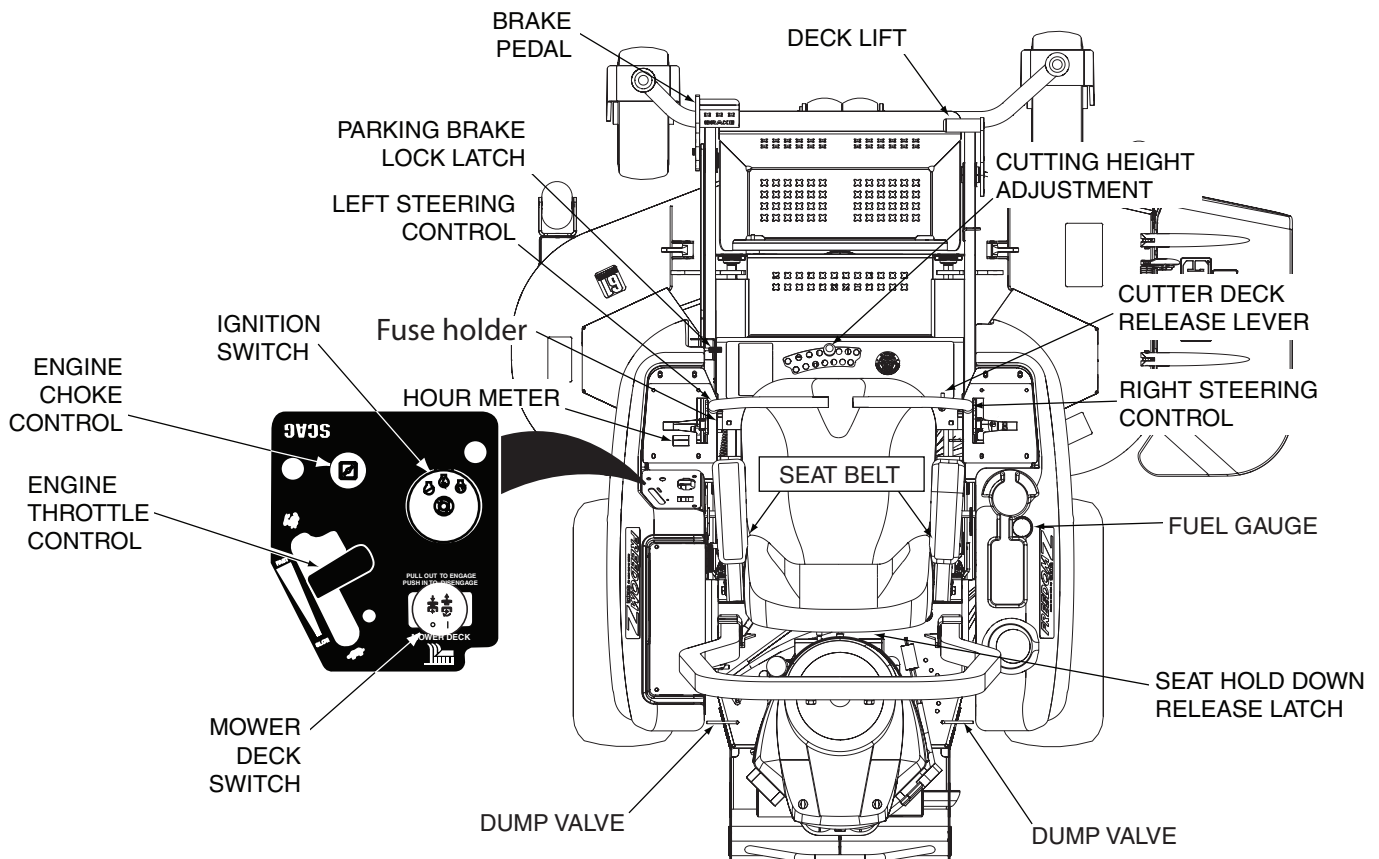
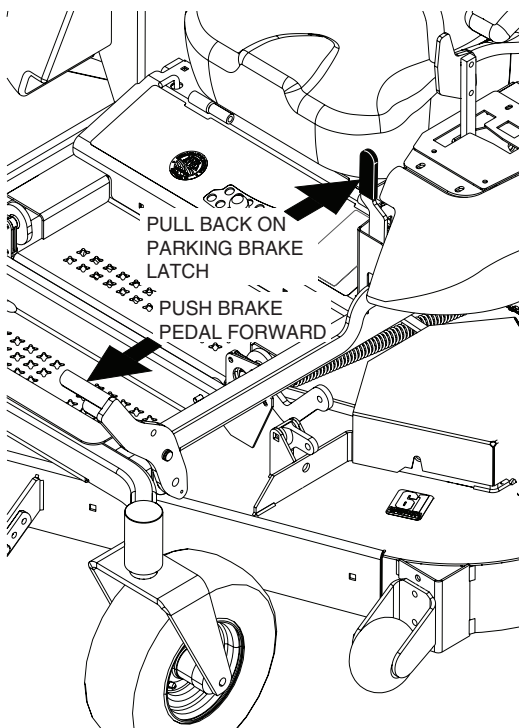
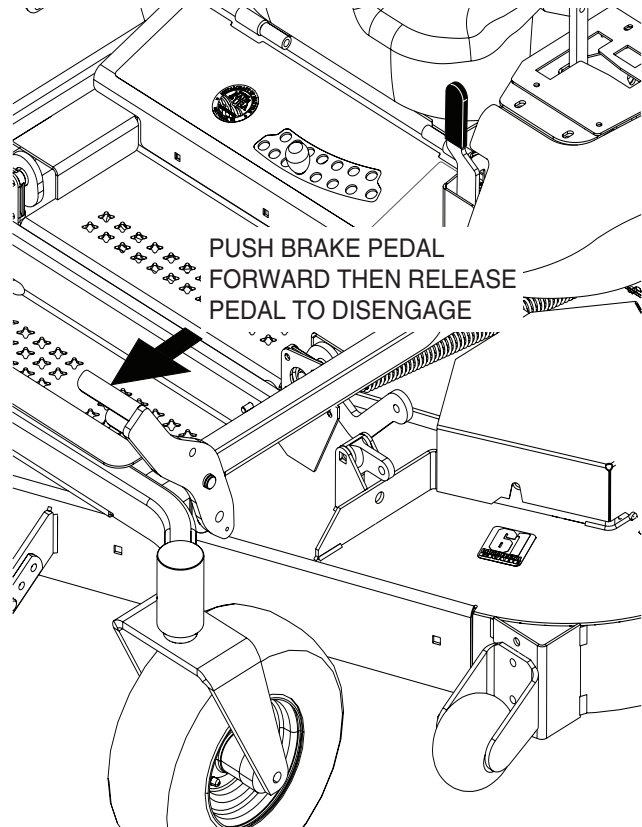

Figure 4-1. Controls and Instruments
Figure 4-2. Engaging the Parking Brake
Figure 4-3. Releasing the Parking Brake
1. **Ignition Switch (Figure 4-1).** The ignition switch is used to start the engine and has three positions; OFF, ON, and START.
2. **Mower Deck Switch (Figure 4-1).** Used to engage and disengage the mower drive system. Pulling up on the switch will engage the deck drive. Pushing down on the switch will disengage the deck drive.
3. **Engine Choke Control (Figure 4-1).** Used to start a cold engine.
4. **Engine Throttle Control (Figure 4-1).** Used to control the engine speed. Pushing the lever forward increases engine speed. Pulling the lever back decreases engine speed. Full back position is the IDLE position. Full forward is the cutting position.
5. **Fuel Gauge (Figure 4-1).** Indicates the amount of fuel in the fuel tank.
6. **Hourmeter (Figure 4-1).** Indicates the number of hours the engine has been operated. It operates whenever the engine is running. Has preset maintenance reminders for engine and hydraulic system oil changes. Will start flashing scheduled maintenance 2 hours before preset time and continue flashing until 2 hours after. Automatically resets.
7. **Fuse Holders (Figure 4-1).** Two 20-amp fuses protect the mower's electrical system. To replace fuses, pull fuse out of the socket and install a new fuse.
8. **Left Steering Control (Figure 4-1).** Used to control the mower's left wheel when traveling forward or reverse.
9. **Right Steering Control (Figure 4-1).** Used to control the mower's right wheel when traveling forward or reverse.
10. **Brake Pedal (Figure 4-1).** Depressing the brake pedal applies the brake.
11. **Parking Brake Lock Latch (Figure 4-1).** Used to lock the parking brake in the engaged position. Fully depress the brake pedal and pull the parking brake lock latch back to lock the parking brake in the engaged position. See Figure 4-2. Fully depress the brake pedal forward to disengage the parking brake lock latch, then release the brake pedal to disengage the brake. See Figure 4-3.
13. **Deck Lift Foot Lever (Figure 4-1).** Used to raise and lower the cutter deck.
14. **Cutting Height Adjustment (Figure 4-1).** Used to set the cutter deck at the desired cutting height.
15. **Deck Release Lever (Figure 4-1).** Used to lock the cutter deck in the transport position. Push the foot pedal forward and pull back on the release lever to release the cutter deck for normal mowing.
16. **Seat Belt (Figure 4-1).** Used to secure the operator. Seat belt must be worn at all times during operation.
17. **Seat Hold Down Release Latch (Figure 4-1).** Located behind the seat. Used to secure the seat in the operator's position. Release the latch to gain access under the seat.
Do not travel forward over a curb. The mower will hang up on the curb. Raise the deck and travel backwards over the curb at a 45 degree angle. (See Figure 4-1 and Section 4-1 item 13 for cutter deck raising description.)
To stop the reverse travel, allow the steering control levers to return to the neutral position. If the mower is to be parked, place the handles in the neutral lock position, fully depress the brake pedal and pull back on the parking brake lock latch to engage the parking brake. See Figure 4-2.
5. Fully depress the brake pedal and pull the parking brake lever back to engage the parking brake. See Figure 4-2.